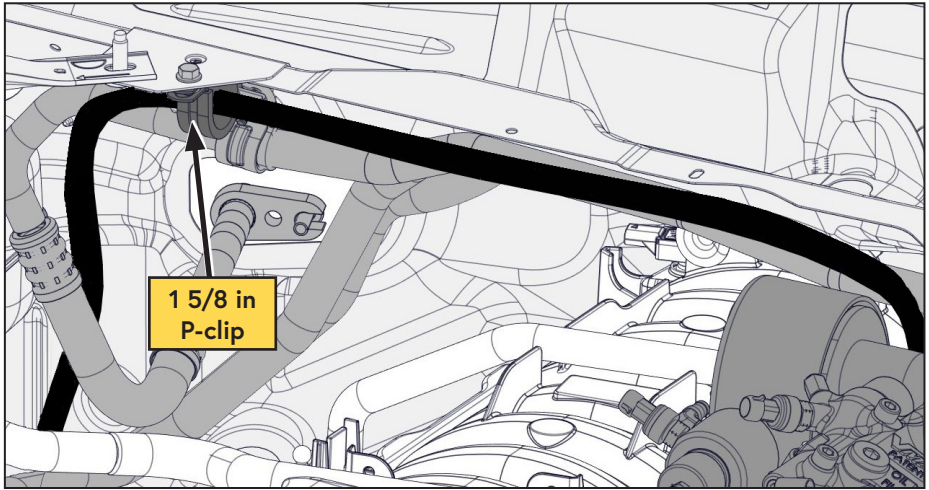

Figure 52 — Route discharge hose
- ☐ Using the supplied 1 5/8 in P-clip and fastener, secure the bundle near the brace (Figure 52).